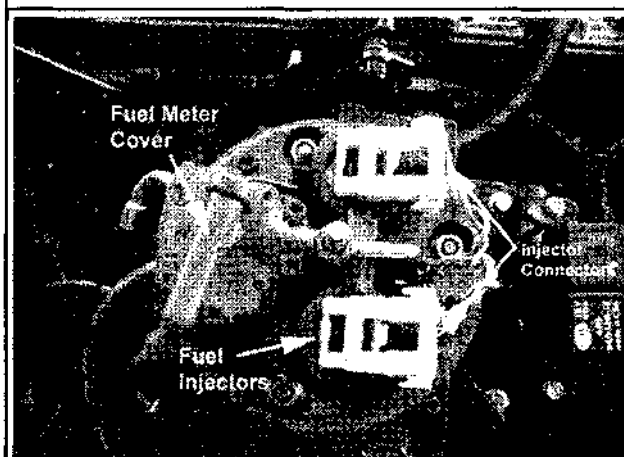

Fig. 54 Remove the connectors...
- ◆ See Figures 54, 55, 56, 57, 58 and 59